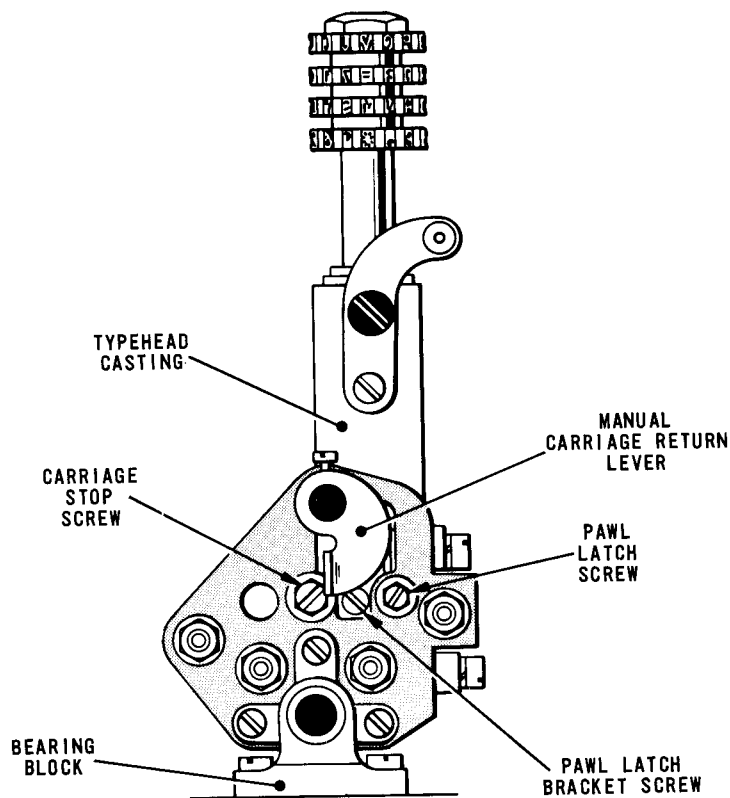
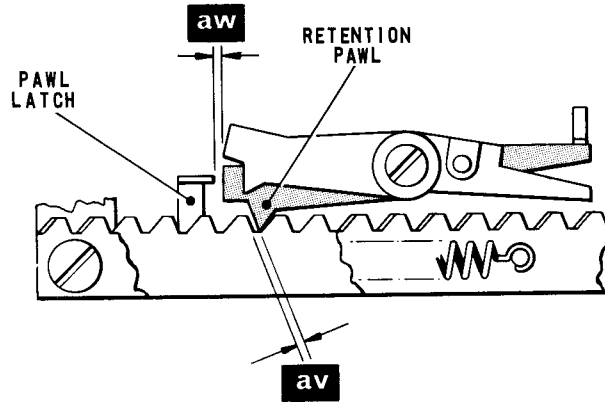
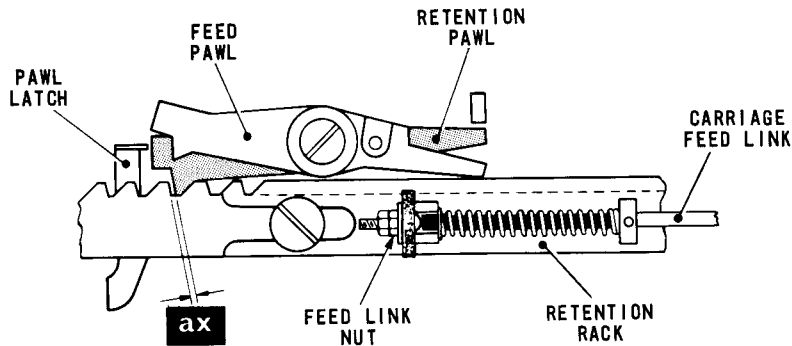
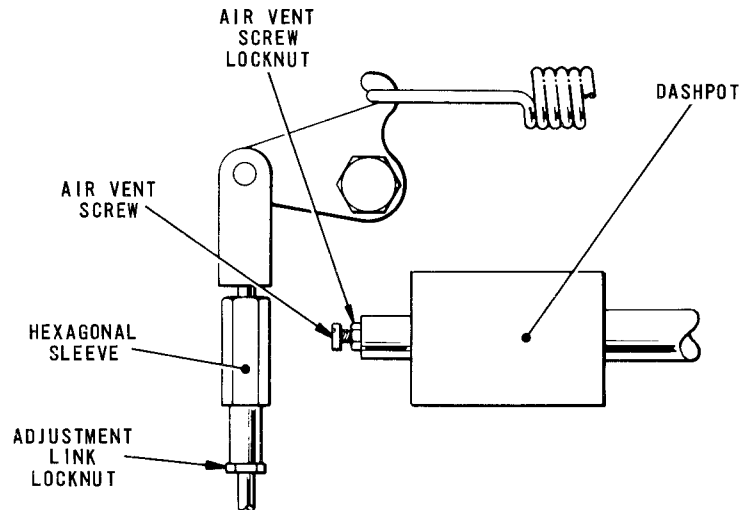

Fig. 4.42 TYPEHEAD CARRIAGE—LEFT-HAND END
Fig. 4.43 TYPEHEAD RETENTION PAWL
Fig. 4.44 TYPEHEAD CARRIAGE FEED LINK
Fig. 4.46 DASHPOT/PRINT SPRING MECHANISM
- 48.2 If the end-play is excessive, remove the two screws securing the typehead carriage left-hand bearing block, Fig.4.42. Hold the carriage so that the gears and racks remain in mesh and lift off the bearing block. Add .005 in. shims (Creed Part No.2003/277) as necessary between the bearing block and the carriage until the end-play is less than .005 in. Refit the bearing block and tighten its securing screws.
49.1 Operate the carriage return manual lever, Fig.4.42, so that the typehead moves to its extreme left-hand position. Check that the retention pawl, Fig.4.43, is now resting in the correct tooth of the retention rack for the required left-hand margin, i.e.
(a) Slacken the locknut of the pawl latch screw, Fig.4.42, and turn the screw until its end is well clear of the pawl latch, Fig.4.43.
- (b) Slacken the locknut of the carriage stop screw, Fig.4.42, and turn the screw until the retention pawl, Fig.4.43, engages the correct tooth of the retention rack and until dimension 'av' is set up. Clamp the carriage stop screw, Fig.4.42, in this position with its locknut.
- 50.1 Slide the typehead to the right-hand limit of its travel. Holding the typehead in this position, operate the carriage return manual lever, Fig.4.42, so that the feed and retention pawls, Fig.4.44, are held up by the pawl latch. Allow the typehead to slide slowly to the left and check that the tails of both pawls clear the racks by .030 - .045 in.
- 50.2 If this is not so, slacken the two screws (one only shown in Fig.4.42) clamping the pawl latch bracket to the typehead casting, and reposition the bracket until the correct pawl clearance is present. Tighten the bracket clamp screws.
- 51.1 Operate the carriage return manual lever, Fig.4.42, so that the typehead moves to its extreme left-hand position. Depress any printing key or, if the machine has no keyboard, set up any printing combination on the pins. Lift the translator clutch abutment and turn the machine by hand until the carriage feed link, Fig.4.44, has moved to its extreme right-hand position.
- 53.1 Operate the carriage return manual lever, Fig.4.42, so that the typehead moves to its extreme left-hand position. Stand the machine on its back and check that it is now possible to move the dashpot piston, Fig.4.46, a further .060 in. into its cylinder.
- 54.2 To adjust, slacken the locknut of the spring adjustment link, Fig.4.46, and turn the hexagonal sleeve until the correct tension is present. Tighten the locknut.